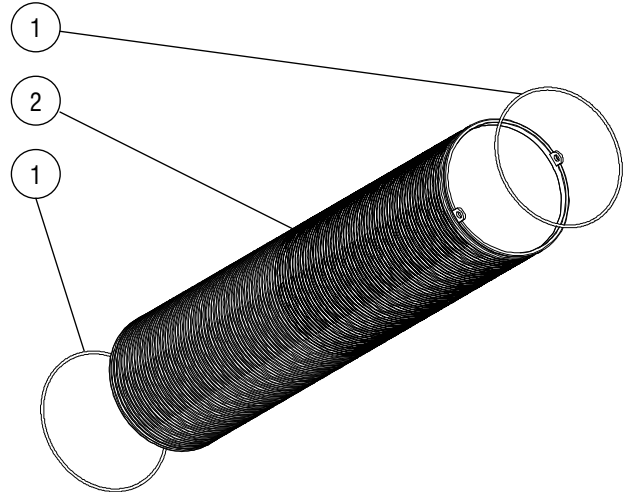

Figure 7
31. Re-install the element O-rings (Figure 7, item 1) and lower the element into the filter housing. When the element reaches the bottom, a small amount of force is needed to seat the element into the base.
Table for Figure 7